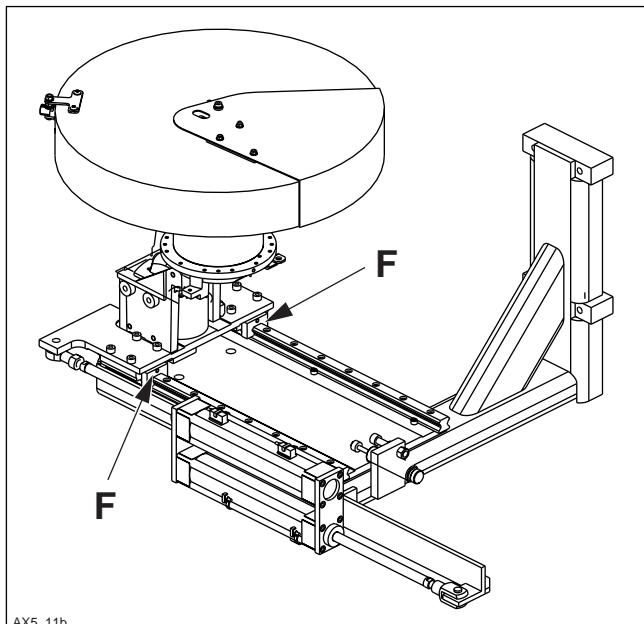

Fig. 11
- Inject approximately 2-3cm³ of grease (Type "AGIP - GR MU EP0") into each grease nipple F (Fig. 11). Clean away any excess grease.